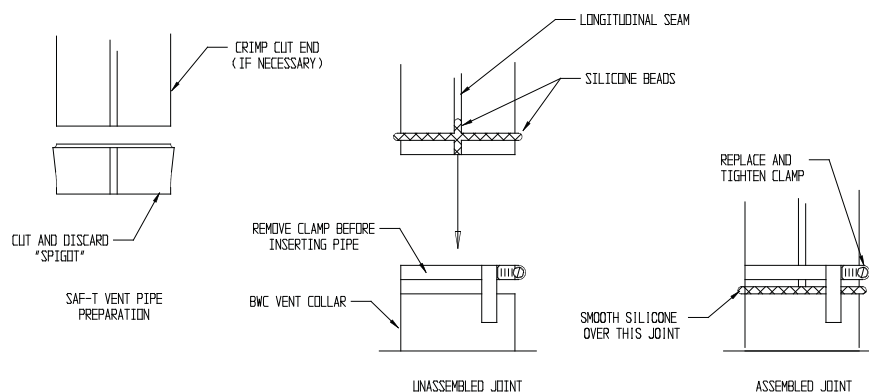

FIGURE 7.49: SAF-T VENT EZ SEAL CONNECTION TO VENT COLLAR
- b) Connection to Boiler – Start assembly of the vent system at the boiler. Remove the hose clamp shipped on the BWC vent collar. Bend the three hose clamp tabs on this collar outward slightly. Cut the “male spigot” off of the first piece of pipe (Fig 7.49). If necessary, crimp the cut end of the pipe so that it can be inserted at least 1” into the collar. Clean the exterior of the male end of the first piece of pipe and the inside of the vent collar on the boiler with an alcohol pad. On the male end of the pipe, apply a ¼” wide bead of high temperature silicone approximately ½ inch from the male end of the pipe. Also apply a ¼” bead of silicone along the first 2 ½” of the longitudinal weld. Insert the male end of the pipe into the boiler vent collar until it bottoms out. Apply an additional bead of silicone over the outside of the joint and smooth out (Fig 7.49). Replace and tighten the clamp on the vent collar.